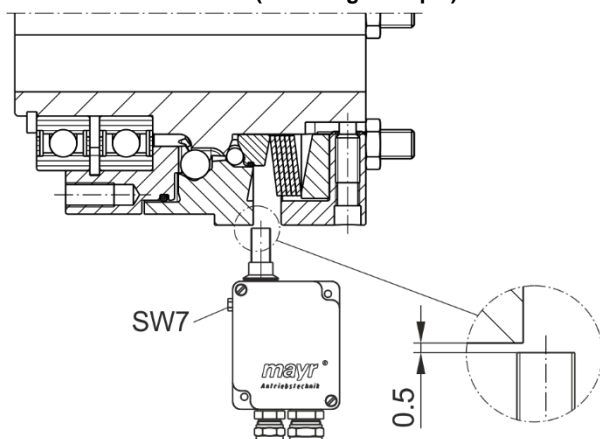

Fig. 15
In order to limit run-out times after overload has taken place, a limit switch must be mounted onto the overload clutch. The contactless limit switch is to be mounted onto the switching edge of the clutch (Fig. 15) so that no signal changes are caused during normal operation on the limit switch by the usual clutch run-out errors.
- ☐ Adjust the switch distance for the contactless limit switch acc. Fig. 15. The distance of the thrust washer (5) to the switching point can be adjusted using a hexagon head screw, wrench opening 7.